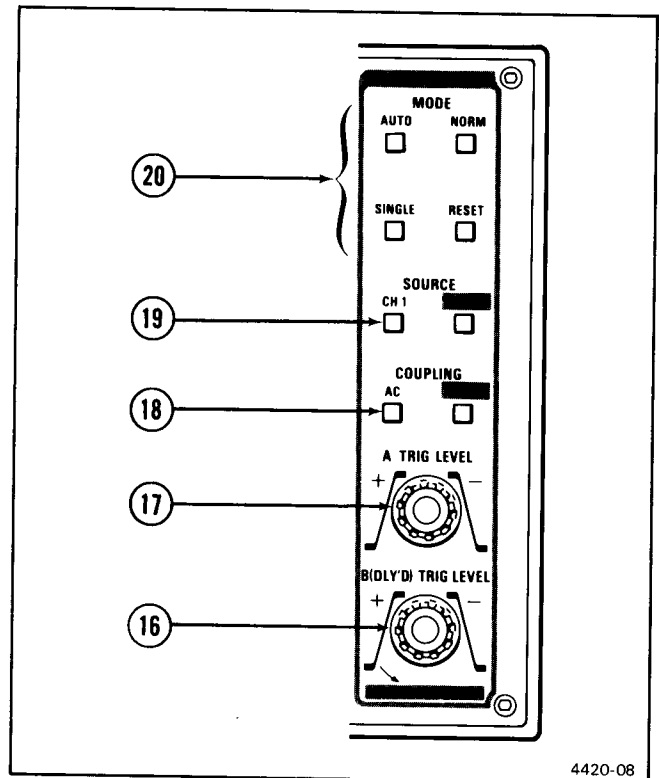

Figure 2-6. Trigger controls.
Refer to Figure 2-6 for location of items 16 through 20.